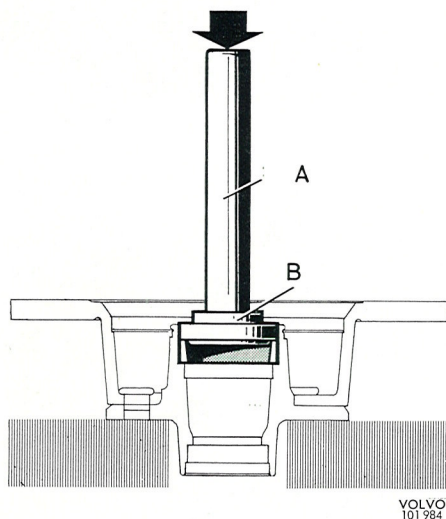
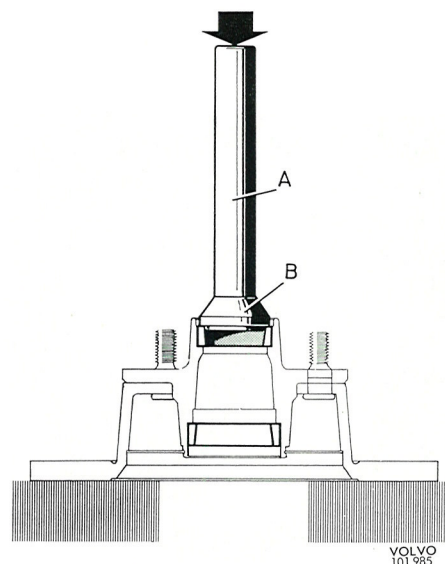

Fig. 7-19. Fitting the inner bearing ring
Fig. 7-20. Fitting the outer bearing ring
7. Press in the new bearing rings. In addition to using standard handle SVO 1801, use drift SVO 2723 (Fig. 7-19) for the inner ring, and drift SVO 2724 (Fig. 7-20) for the outer bearing ring.